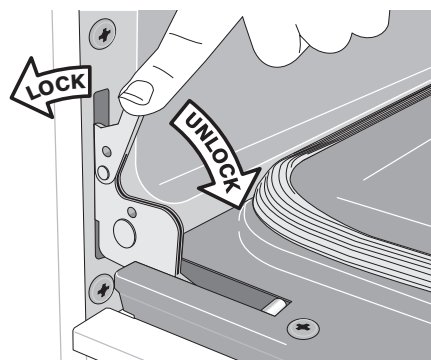

Figure 18: Door hinge Locks
2. Pull the door hinge locks on both left and right door hinges down from the oven frame completely towards the oven door (See Figure 18). A tool such as a small flat-blade screwdriver may be required.
4. Push the door hinge locks up towards and into the oven frame on both left and right oven door hinges to the locked position (Figure 18).